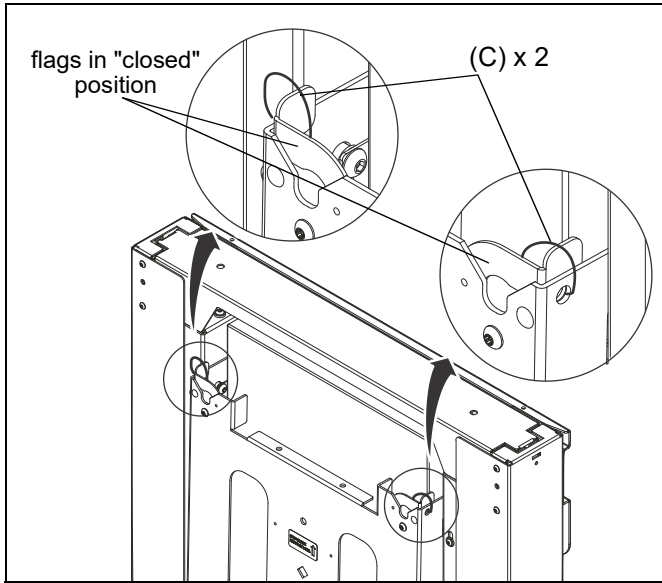

Figure 37
IMPORTANT ! : Manufacturer recommends using cable ties (C) or padlock (not included) to secure the latching flags in closed position on both sides. (See Figure 37)